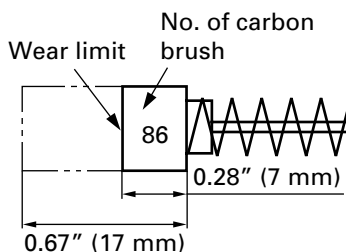

Fig. 7
3. Inspecting the carbon brushes (Fig. 7)
NOTE: Use HITACHI carbon brush No. 86 indicated in Fig. 7.